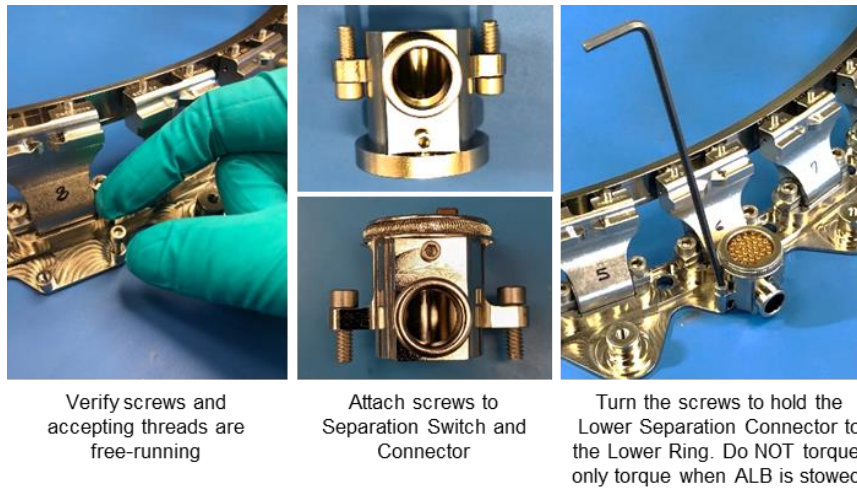

Figure 8-5: Attaching Separation Connectors
8.3.2	Determine the desired locations of Separation Connectors. Figure 8-5 shows steps for attaching Separation Connectors.